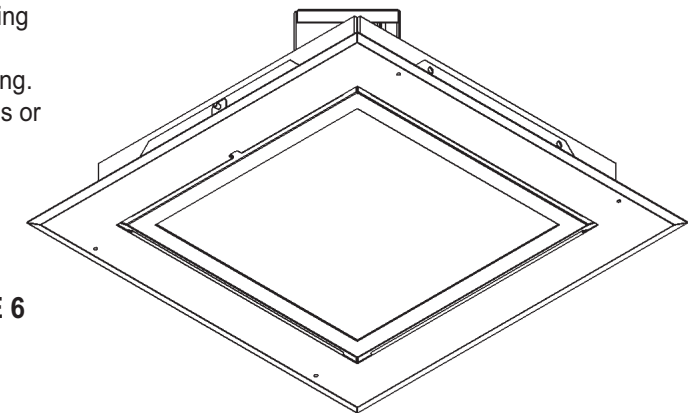

FIGURE 6
1. Prepare ceiling opening. See Figure 6 and directions below:
- B. Position ring flush with ceiling and secure using appropriate fasteners (not supplied). Four (4) drill points are provided on face of ring. An alternate securing method is to use cables or screws on (2) inside bent legs of ring. Neither cables nor screws provided.